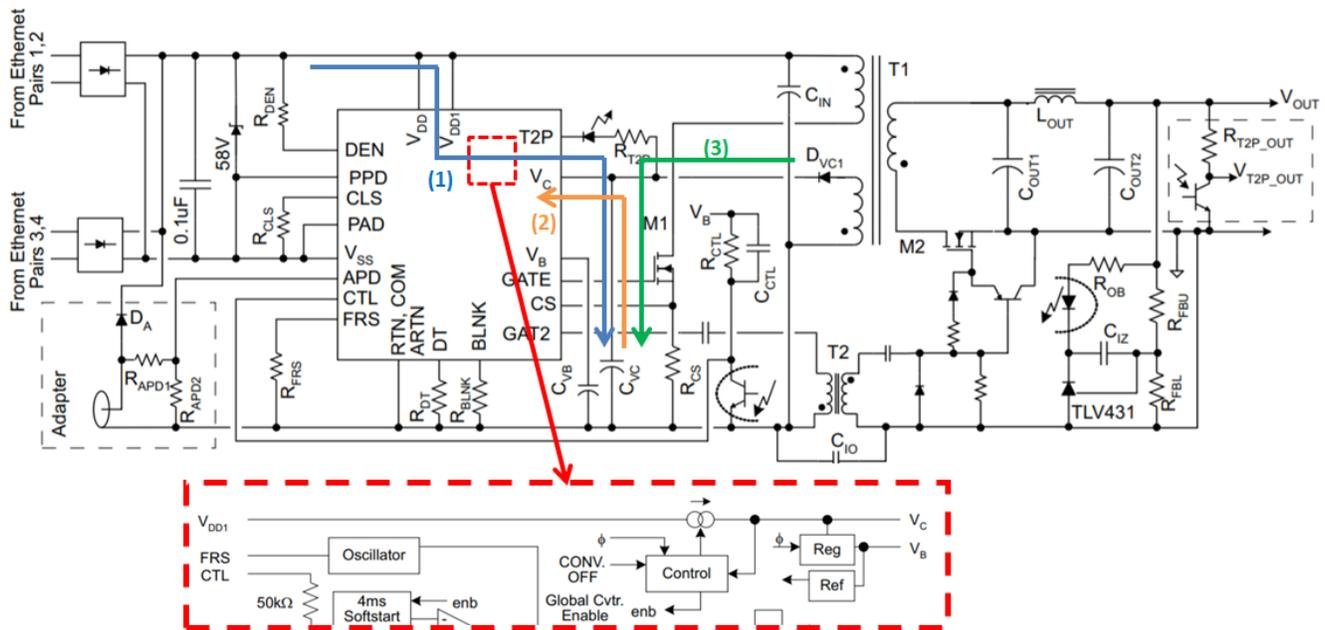
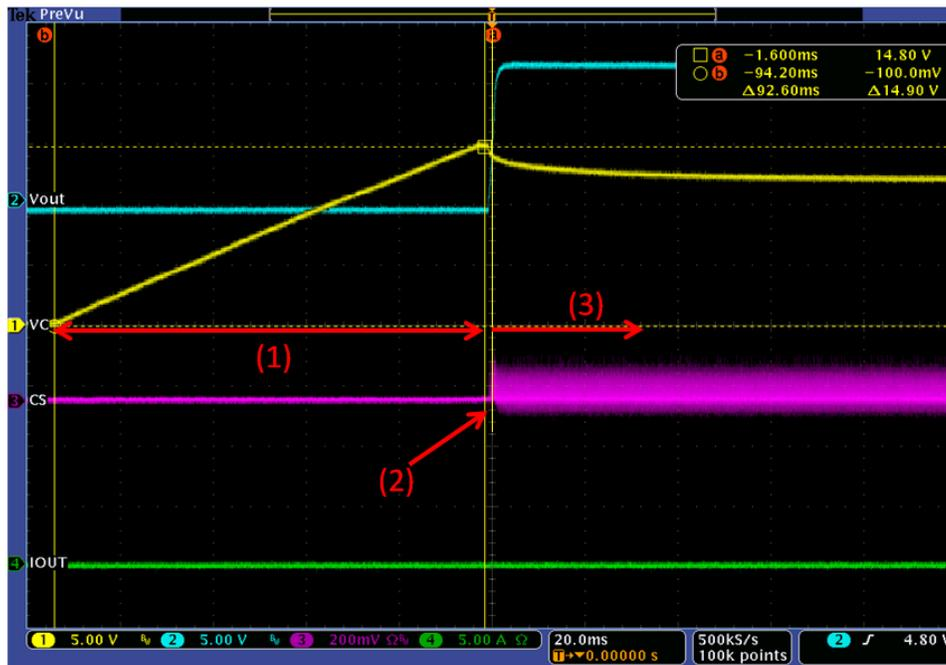

Figure 3.  $C_{vc}$  Current Path During the Startup
Figure 4. Startup waveform on  $C_{vc}$
Figure 3 shows that when the standard PoE voltage range feeds VDD bus after PoE handshaking or adapter plug-in, the internal constant current source will be triggered to start charging the external  $C_{vc}$  capacitor. The voltage on  $C_{vc}$  is a constant rising slope until reaching to 15V,typ. The charging current path to external  $C_{vc}$  is (1). Therefore, the controller starts sending PWM pulse to switch the external primary FET M1 while the internal current source of controller is turned off. Before the output voltage ( $V_{out}$ ) achieves the target  $V_{out}$ , the external  $C_{vc}$  capacitor is providing the energy as discharging to Vc pin as the source of the internal gate driver. The current path is (2). After  $V_{out}$  achieves the target voltage, the AUX winding start providing the energy to the internal gate driver and recharging  $C_{vc}$  capacitor. The current path is (3) and the waveform is shown in Figure 4.